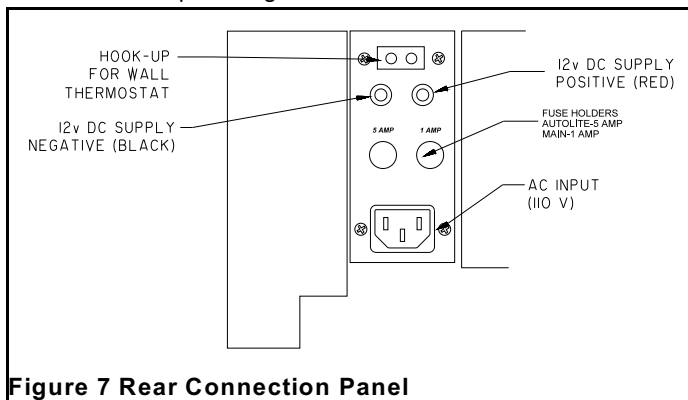

Figure 7 Rear Connection Panel
The following is a step by step procedure for installing the optional wall thermostat. Note connection terminals on left side of unit at rear (Figure 7,8). Use 18/2 thermostat wire for the installation.
- b. Remove factory jump wire and hook up thermostat wires to terminals (Figure 7,8).